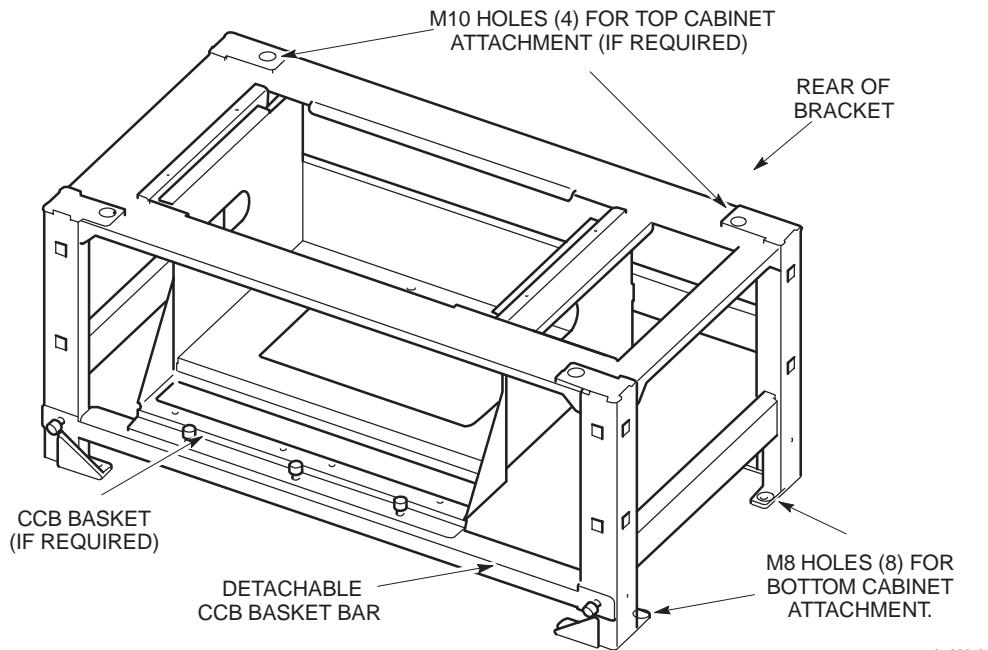

Figure 2-7 View of stacking bracket with optional CCB basket installed
1. Locate the four top panel M8 screws to be replaced by hood pins, as shown in Figure 2-7, and remove.
2. Remove the eight (or four remaining) M8 screws from the cabinet top panel as shown in Figure 2-7 and retain.
Figure 2-7 shows a stacking bracket fitted with optional CCB basket.